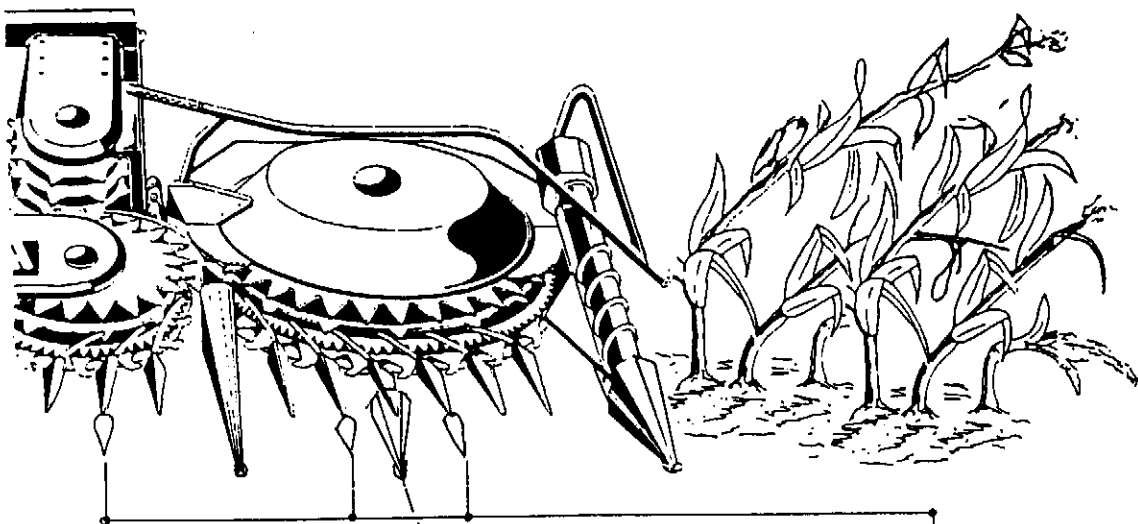

Fig.78-1
- C The middle point (3) can be set at a minimum height using an M12x20 cheese head screw (98).
- D In the leaf lifter area (2+4), the pillow block (11) and dividing point (30) must be exchanged for a different dividing point (40).
- E Additionally, with lodged goods, 6 fixed stalk lifters (200) can be installed. Order no. 69196. (see page 38, fig. 78-1, item 200).